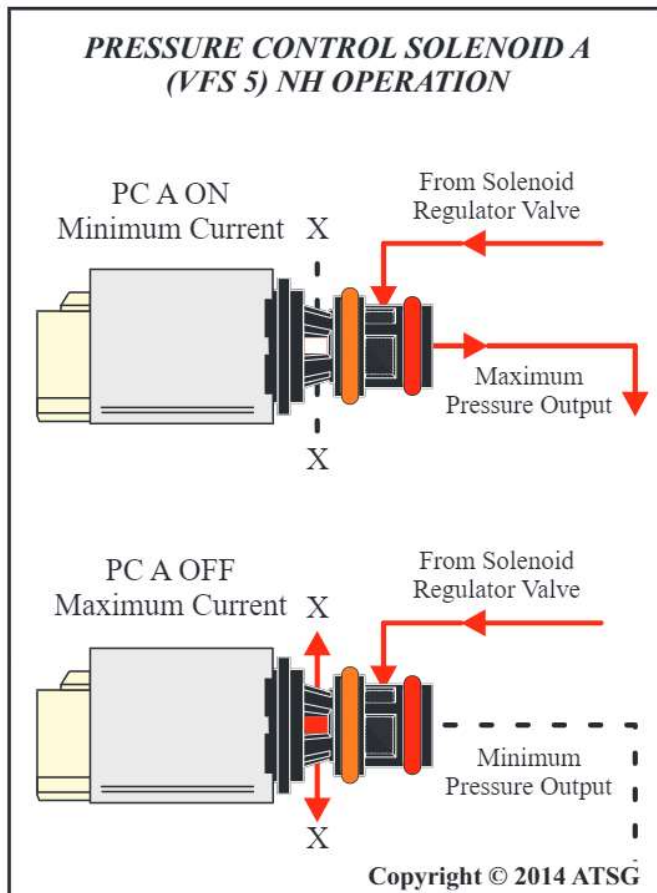

Figure 19
Pressure Control Solenoid A, or Variable Force Solenoid 5 is a Normally High (NH) or normally applied solenoid and uses inversely proportional control. The Mechatronic Control Unit, or PCM will vary the current through the solenoid circuit in order to control the output pressure through the solenoid. Looking at Figure 12 it can be seen that PC A is operated in every range and is TCM/PCM control condition dependent, meaning that current will be increased or decreased depending upon different engine controls and conditions. Refer to the diagram in Figure 19. The diagram illustrates that with minimum current applied to PC A, line pressure will be high, conversely with maximum current applied to PC A, line pressure will be low.